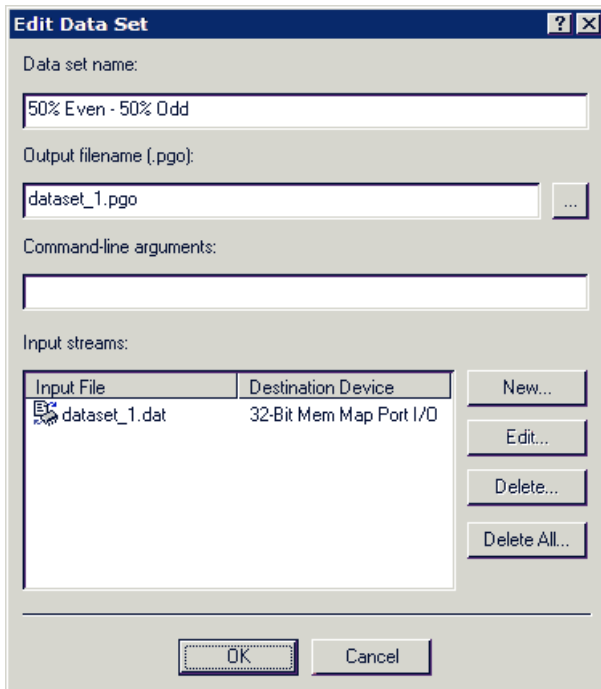

Figure 3-6. A Configured Data Set
4. Click **OK** to return to the **Edit Data Set** dialog box. Your configured data set should match the one in Figure 3-6.